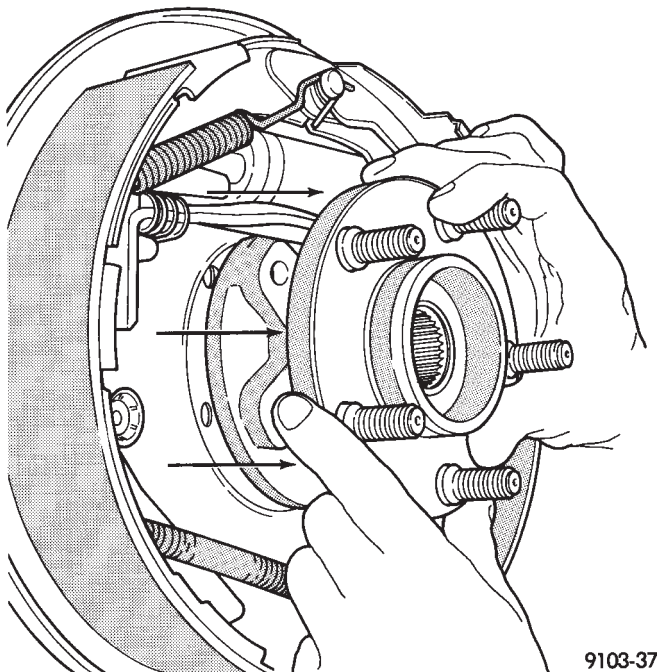

Fig. 6 Pull Wheel Bearing Assembly from Housing
(8) Remove wheel bearing and hub assembly (Fig 6).